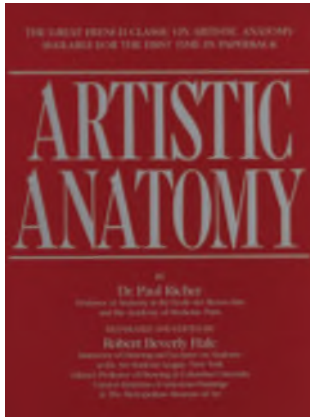

FIG. 6-1 *Artistic Anatomy*.
- *Artistic Anatomy*, by Paul Richter, Watson-Guipill Publications (Figure 6-1)